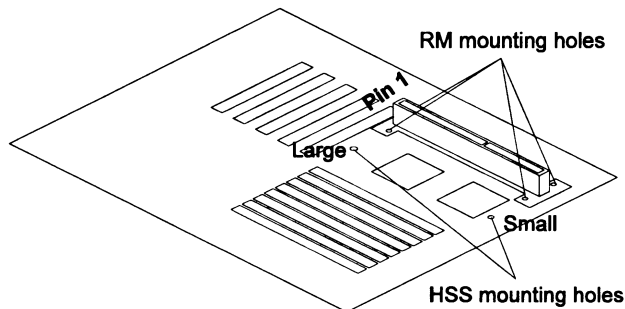

Figure 2-4: Locating the mounting holes on the motherboard.
1. Locate the Retention Mechanism (RM) mounting holes and the “Pin 1” mark of Slot 1 on the motherboard (see Figure 2-4).
Figure 2-4 shows the components of the heat sink for the Celeron processor: